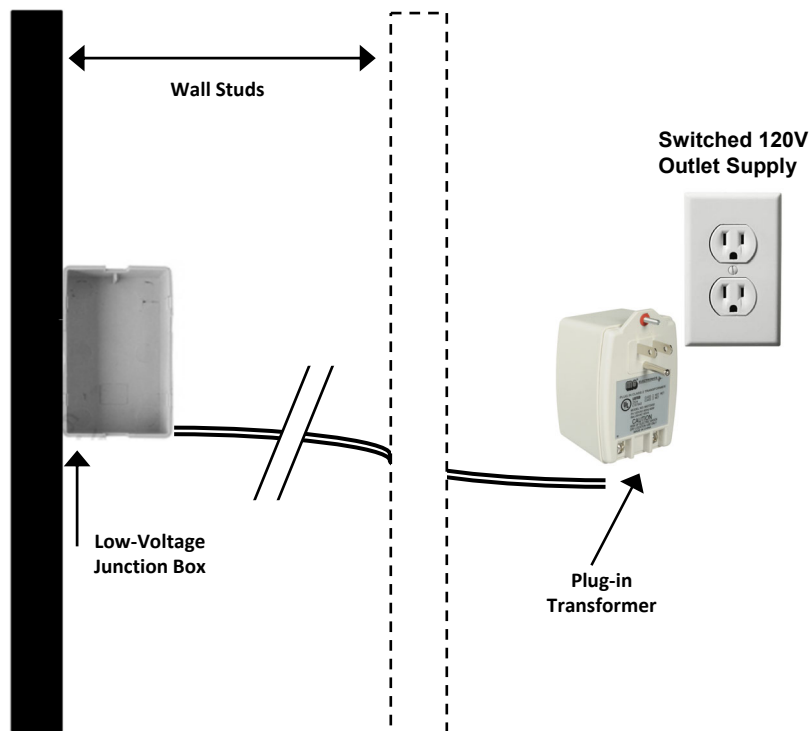

Figure 1. Locating the junction box and running low-voltage wires from the transformer (front view).
4. Install junction box per manufacturers instructions (see Figure 1).
1. Run power supply wires from the provided low-voltage transformer to the opening at the mirror location. The power supply wires are run in the wall (see Figure 1).